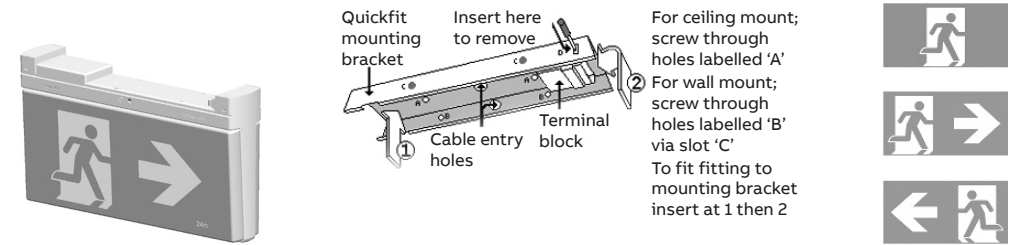

Figure 1: Quickfit insertion diagram and internal view
3. Attach the exit LED Quickfit fitting to the mounting bracket by aligning the top left hand end of the fitting (the end without the protruding electrical connecting metal lugs) with the large cut-away slot towards the left hand end of the bracket. Slip the left hand end of the fitting up into the slot in the left hand end of the bracket (step 1 in figure 1) and hold the fitting horizontal to and parallel with the bracket. It should be approximately 50mm to the right of its final destination. Simply slide the fitting (step 2) in 50mm to the left along and into the bracket to engage the connections and the locking tab. Once in place, the exit fitting cannot be removed from the bracket without the use of a tool (a small screwdriver) to push in the locking tab at 'D' in figure 1.
1. Insert a small screwdriver into the slot (at 'D' in figure 1) on the front of the bracket towards the right hand end of the fitting, to ease the locking tab into the fitting and away from the bracket.